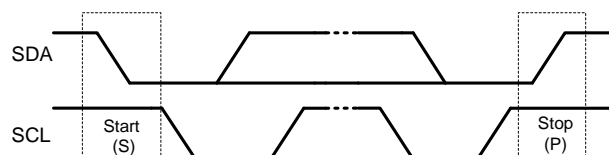

Figure 9: Start and Stop Commands
All transactions begin with a start (S) command and are terminated by a stop (P) command. A start command is defined as a high-to-low transition on the SDA line while SCL is high. A stop command is defined as a low-to-high transition on the SDA line while the SCL is high (see Figure 9).